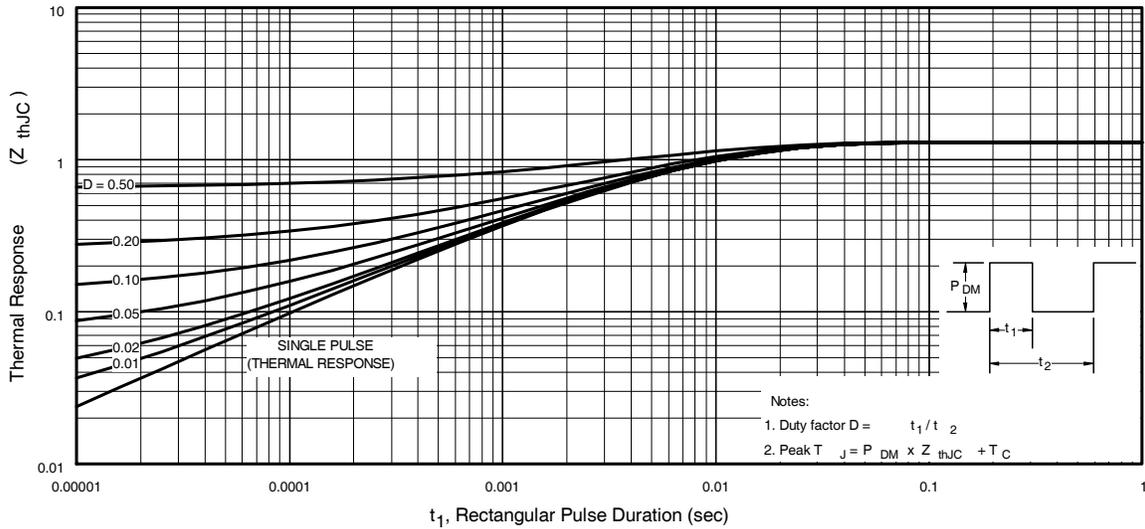
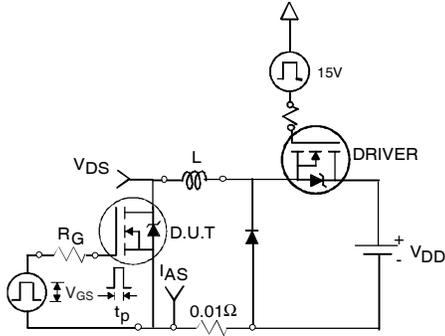

Fig 11. Maximum Effective Transient Thermal Impedance, Junction-to-Case
Fig 12a. Unclamped Inductive Test Circuit
3. Equation below based on circuit and waveforms shown in Figures 12a, 12b.
$Z_{thJC}(D, t_{av})$ = Transient thermal resistance, see figure 11)
- ① Repetitive rating; pulse width limited by max. junction temperature. (See fig. 11).
- ② Limited by T_{Jmax} , starting $T_J = 25^\circ\text{C}$, $L = 0.45\text{mH}$, $R_G = 25\Omega$, $I_{AS} = 30\text{A}$, $V_{GS} = 10\text{V}$. Part not recommended for use above this value.
- ③ $I_{SD} \leq 30\text{A}$, $di/dt \leq 280\text{A}/\mu\text{s}$, $V_{DD} \leq V_{(BR)DSS}$, $T_J \leq 175^\circ\text{C}$.
- ④ Pulse width $\leq 1.0\text{ms}$; duty cycle $\leq 2\%$.
- ⑤ C_{oss} eff. is a fixed capacitance that gives the same charging time as C_{oss} while V_{DS} is rising from 0 to 80% V_{DSS} .
- ⑥ Limited by T_{Jmax} , see Fig.12a, 12b, 15, 16 for typical repetitive avalanche performance.
- ⑦ This value determined from sample failure population. 100% tested to this value in production.
- ⑧ When mounted on 1" square PCB (FR-4 or G-10 Material). For recommended footprint and soldering techniques refer to application note #AN-994.